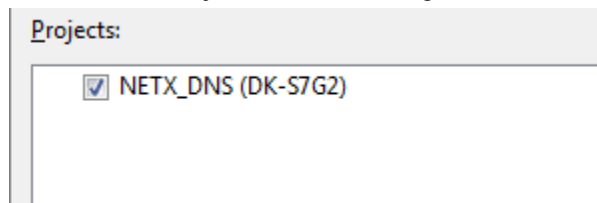

Figure 2.9 Import Existing Project dialog 2
12. Select the Project to import from the list of Projects, as shown in Figure 2.9.